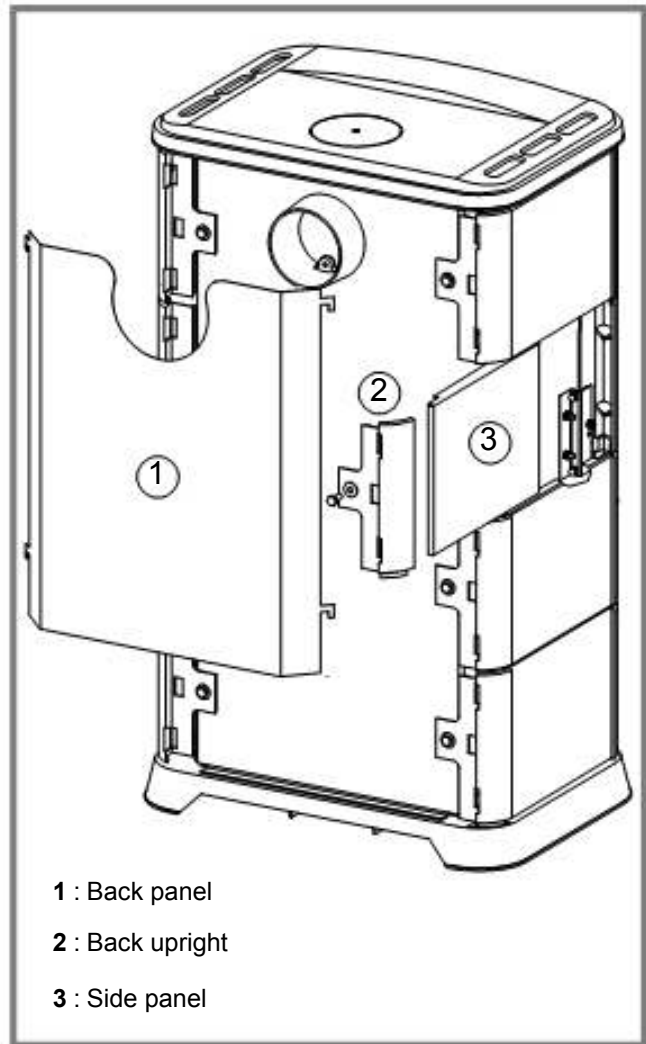

Figure 8 -Mounting the side panels
- Remove the rear shield (fig. 8, # 1).